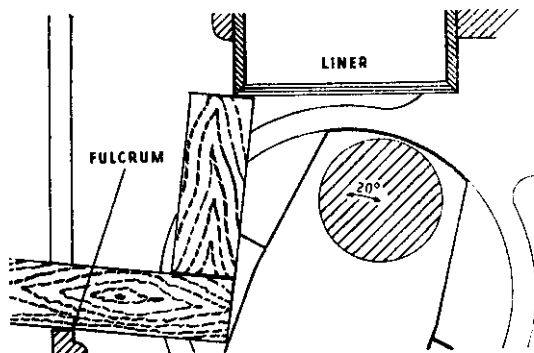

Fig. 2
- i. As in i above, but see Fig. 2.
- iii. With a wooden bar and a short piece, using the casting as a fulcrum, all as shown in sketch—Fig. 2, prise the liner out.